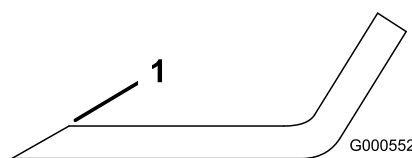

Figure 79
1. Use a file to sharpen the cutting edge at both ends of the blade (Figure 79).
Note: If the blade is not balanced, file some metal off the end of the sail area only (Figure 79).